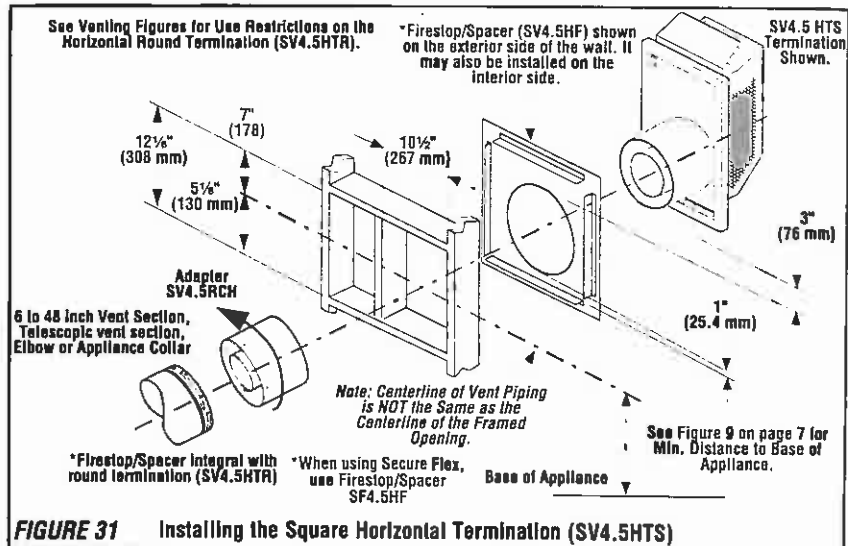

FIGURE 31 Installing the Square Horizontal Termination (SV4.5HTS)
K. Attach termination adapter - Attach the adapter (adapter - **SV4.5RCH** - provided with the termination) to the vent section or telescoping vent section, elbow or appliance collar as shown in **Figure 31** in the same manner as any SV4.5 vent component (refer to **Step E**).
L. Install Firestop/Spacer at exterior wall - When using the square termination, install **SV4.5HF** (Secure Vent), **SF4.5HF** (Secure Flex) Firestop/Spacer over the opening at the exterior side of the framing, long side up, with the 3 inch spacer clearance at the top as shown in **Figure 31**, and nail into place. (The Firestop/Spacer may also be installed over the opening at the interior side of the framing.) When using the round termination, a separate firestop/spacer is not required since this termination has integral spacers which provide the same function as a separate firestop/spacer.